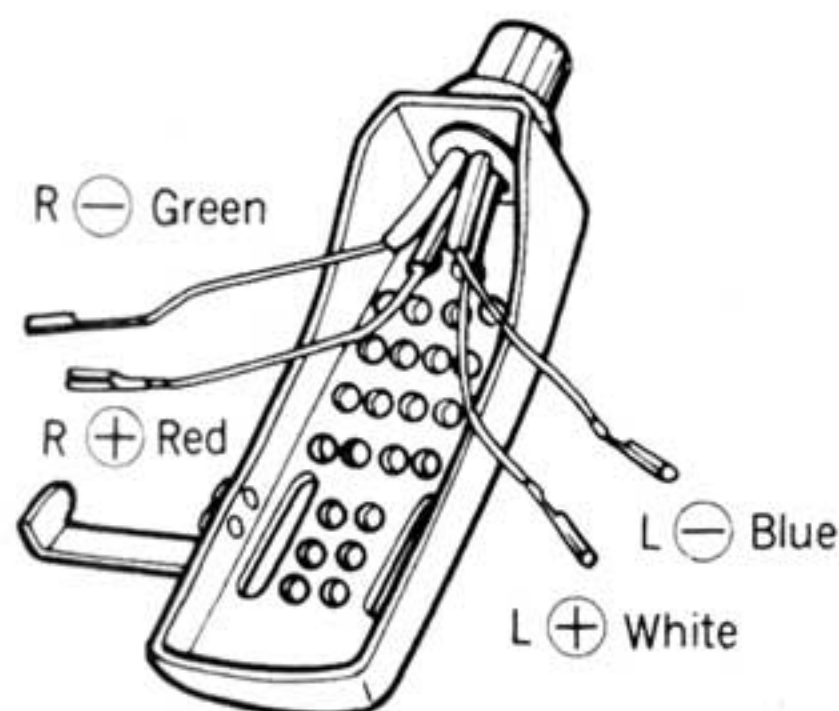

Fig. 5
- (1) Attach the cartridge to the head shell with cartridge fixing screws.
- (2) The polarities and L,R channel of the lead wire of the head shell are shown in Fig. 5. The connection should be done according to the terminal indication of the cartridge.